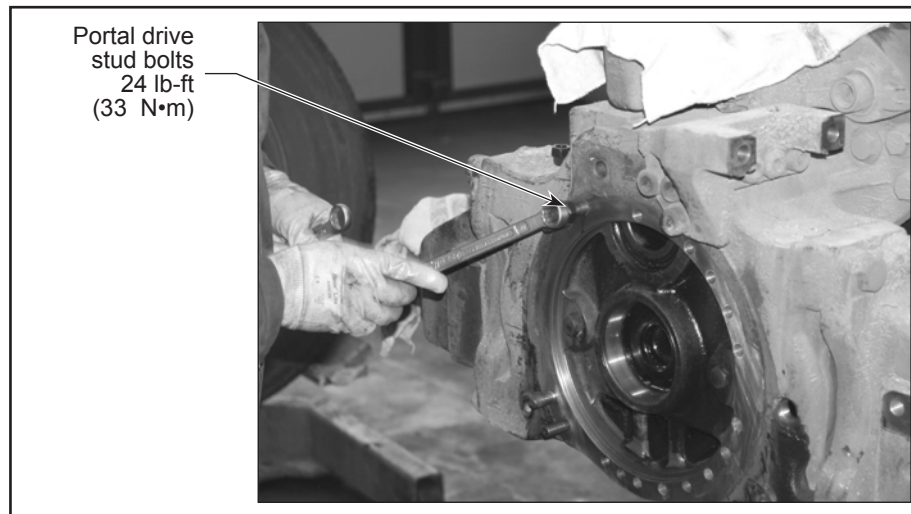

Figure 20 - Portal Drive Stud Bolts
2.49. Install the stud bolts of the portal drive and secure with Loctite type no. 262 (or equivalent). See Figure 20.